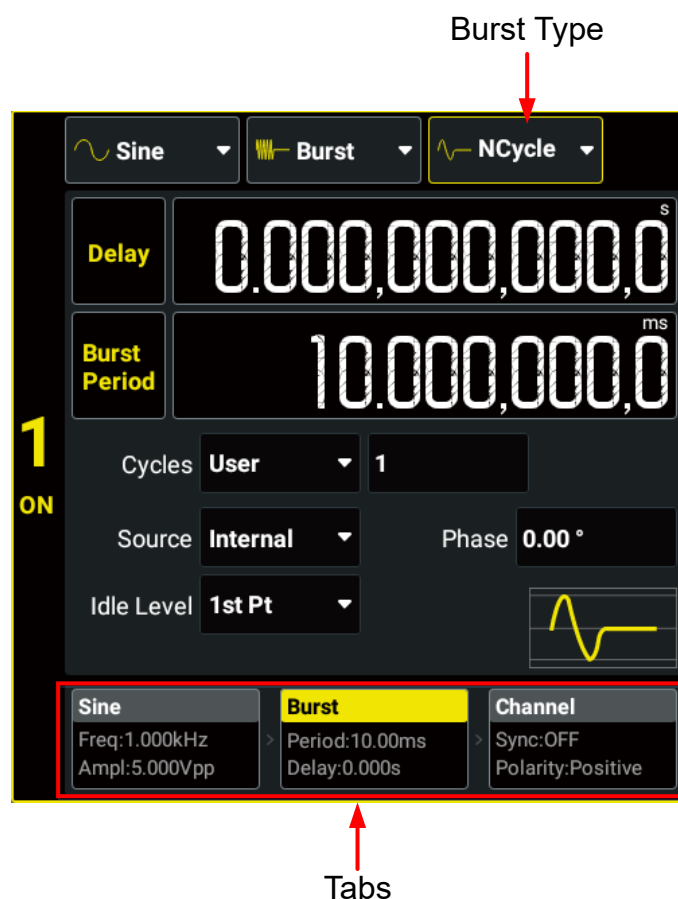

Figure 8.1 Burst Setting Interface
DG800 Pro can output two types of bursts: N-Cycle Burst (default) and Gated Burst. In the Burst Setting Interface (*Figure 8.1*), click or tap the "Burst Type" drop-down button to select "NCycle" or "Gated". The table below illustrates the trigger sources and waveform parameters available for the two burst types.
- **Manual:** Manual trigger is only available for N-Cycle Burst mode. When manual trigger is selected, click or tap the manual trigger key  in *Figure 8.1* interface or press the front-panel  key to initiate a burst output immediately. If the output of the corresponding channel is not enabled, the trigger will be ignored.
After enabling the Burst function, in Burst Setting Interface (*Figure 8.1*), click or tap the **Idle Level** drop-down button to select the idle level.